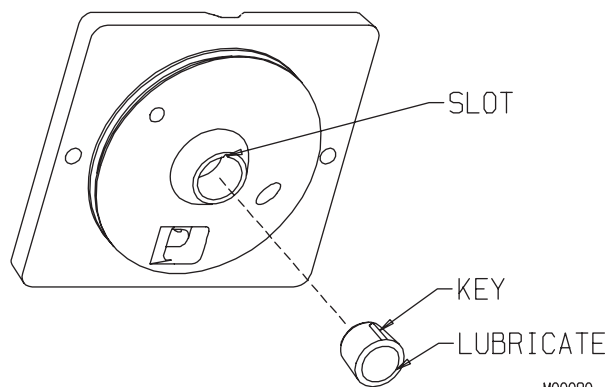

Figure 7-6 Head Bushing
12. Lubricate the inside surface of the beater bearing bushing (3) and place in the head (5) making sure to align bushing key into head slot, as shown in figure 7-6.